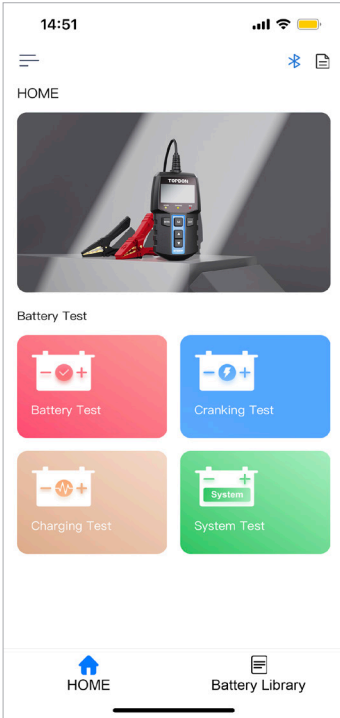
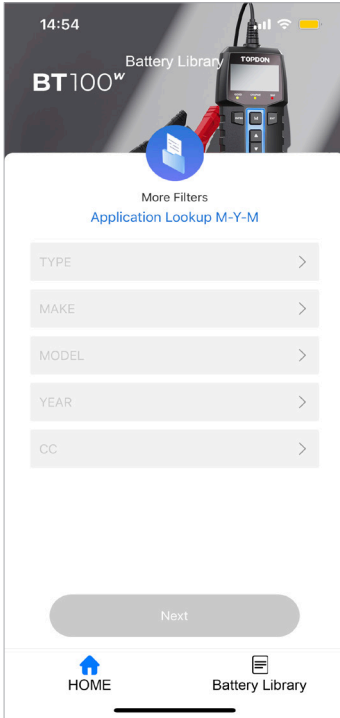

Figure 5.8.1
Figure 5.8.2
1) Battery Library is designed to check detailed information of the batteries. Press Battery Library on the homepage (See Figure 5.8.1) and follow the prompts to enter like TYPE, MAKE, MODEL, YEAR and CC (See Figure 5.8.2).